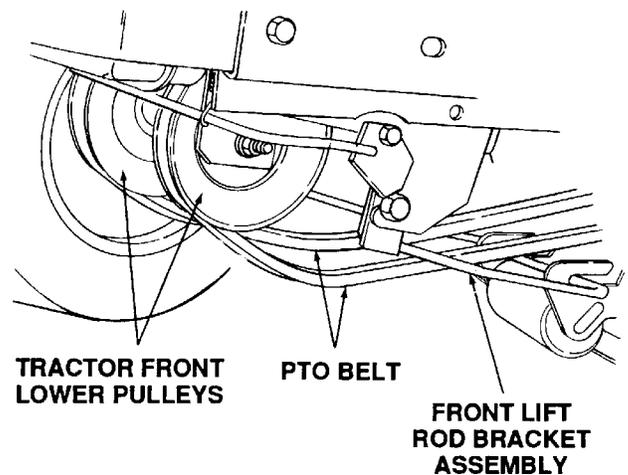

Figure 45
- Pass the PTO belt downward, inside the tractor frame, until the belt is below the two tractor front lower pulleys and pull the belt clear of the tractor (See Figure 45).